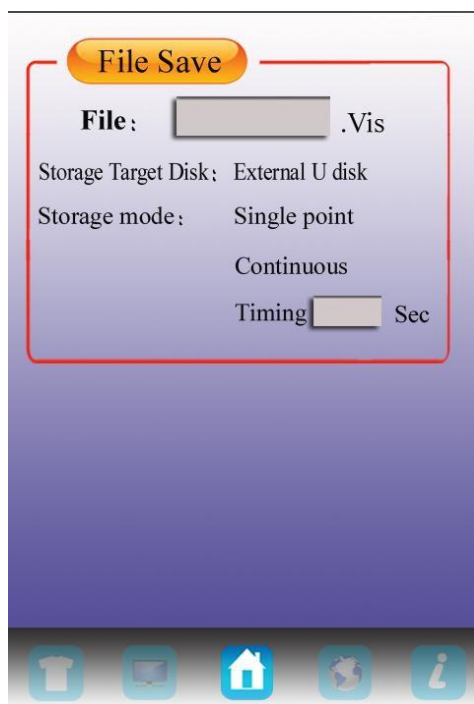

FIG.6
- 6) File Management Setting: click the button  to enter (FIG.6).